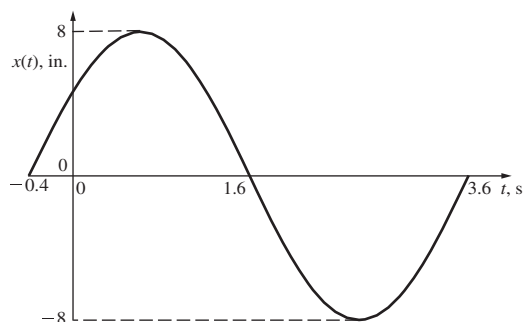

Figure P6.9 Motion of a spring-mass system in the x -direction for problem P6-9.
- 6-9.** Repeat problem P6-8 for the sinusoidal motion shown in Fig. P6.9.